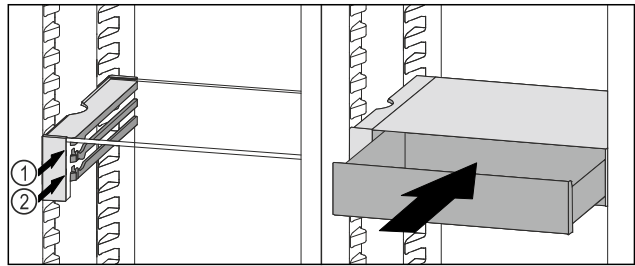

Fig. 88
- ▶ Place the VarioSafe drawer behind the stoppers on desired rib *Fig. 88 (1)* or *Fig. 88 (2)*.